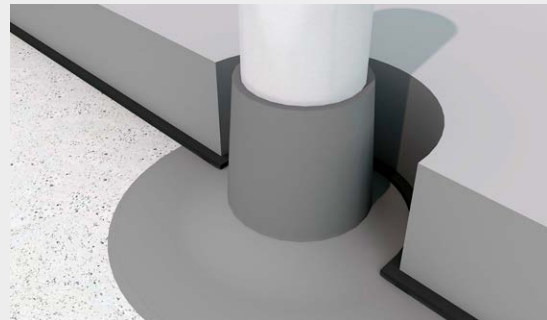

Figure 8
- 5 Fit XENERGY™ SL boards neatly around penetrations (**Figure 8**). Cut boards with a sharp knife or fine toothed saw.